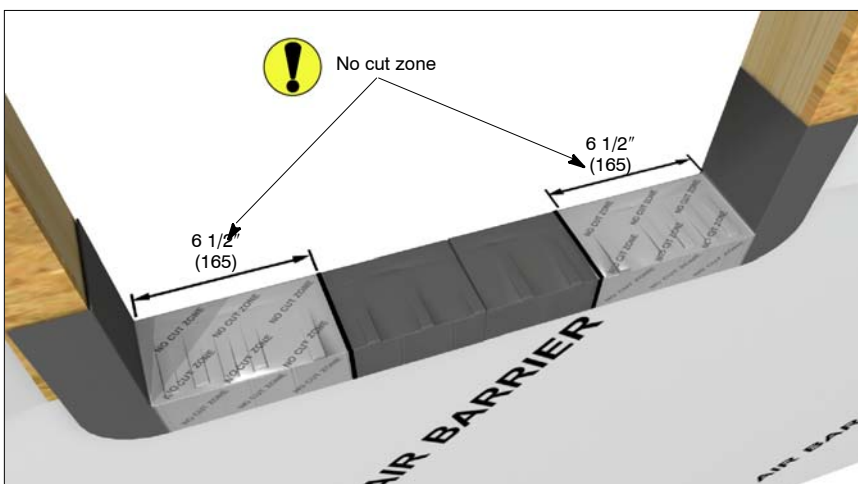

Figure 22: No cut zone in corner pieces
3. The area approximately 6 1/2" (165) from the vertical leg of the SillGuard corners is a "no cut zone". Take this into account when planning the cut for spliced corners. See figure 22.